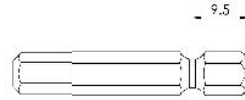

Fig. 9
**NOTE:** The quick connect sleeve is designed for 1/4" (6.35 mm) bits with a nominal shaft length of 3/8" (9.5mm) (see Fig. 9). Use of other bits may not be properly retained.